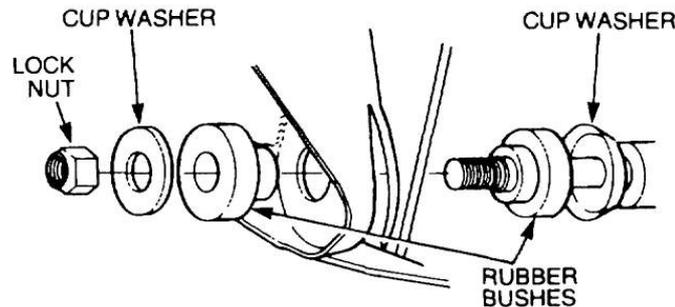

Figure 112 Installation of the Radius Arm Bush
- e. Install a cup washer and rubber bush on each radius arm and insert each arm into the corresponding chassis bracket. Install the remaining rubber bush, cup washer and new locknut (Figure 112) but do not tighten.